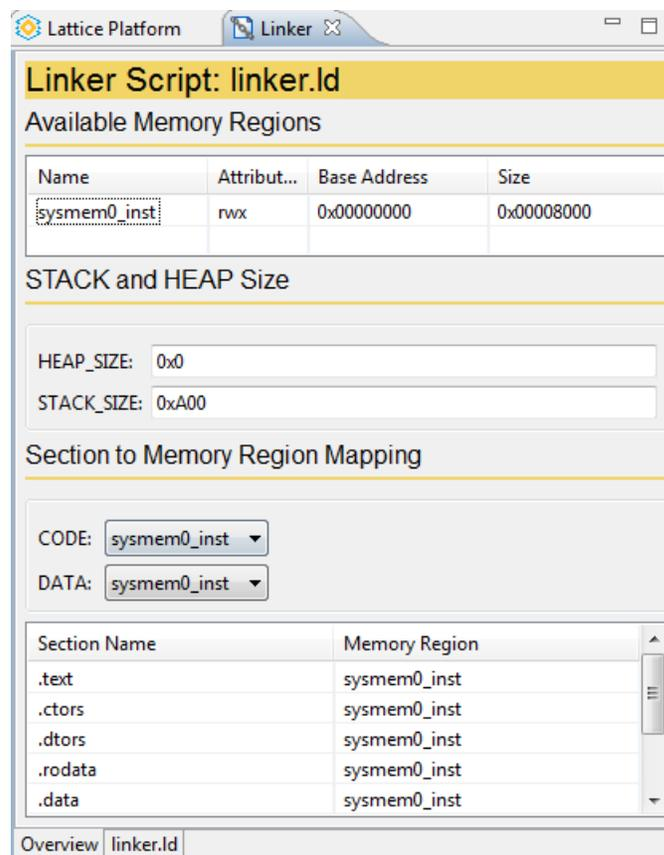

Figure 3.26. Linker Editor
- Linker Editor: An overview of the memory regions of linker script can be displayed. You can modify key linker parameters via the graphical interface (Figure 3.26).